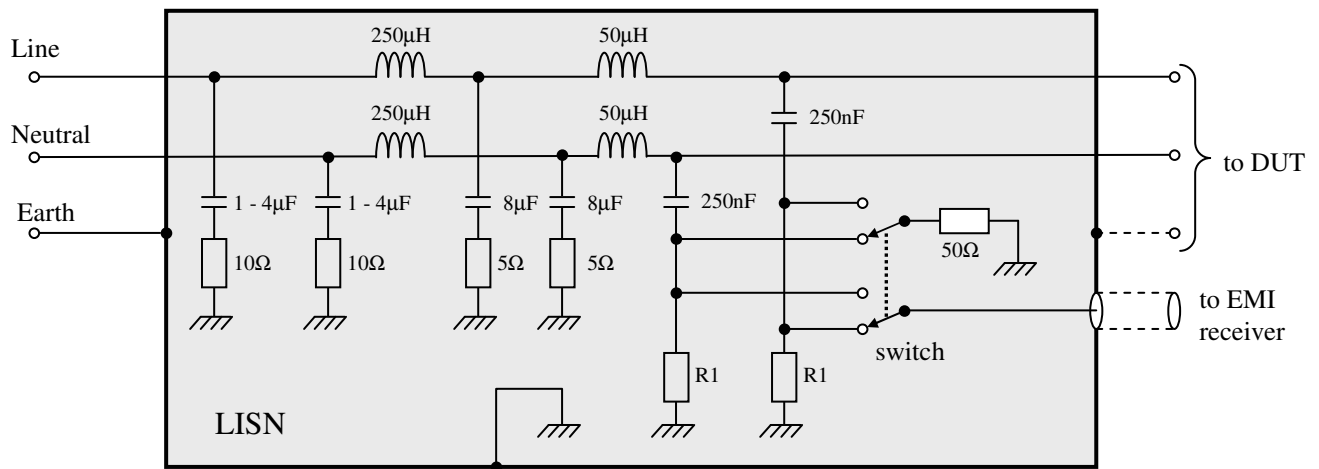

Figure 3 LISN for 9kHz - 30MHz
*) In CISPR16 the resistors R1 in figure 3 and 4 are suggested to be 1k Ω , which would result in 47,6 Ω impedance into Line and Neutral above 1MHz.